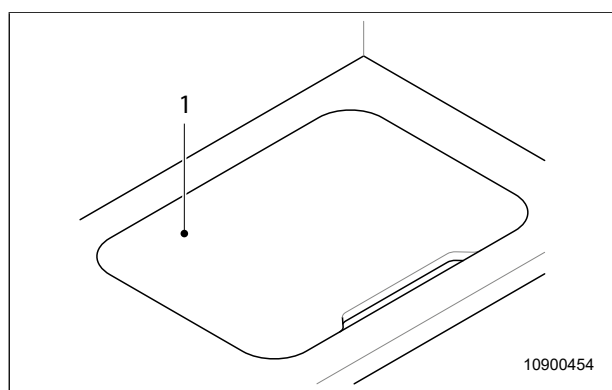

Fig. 26 Sink cover
The cover (Fig. 26, item 1) can be stowed in the compartments underneath the sink.